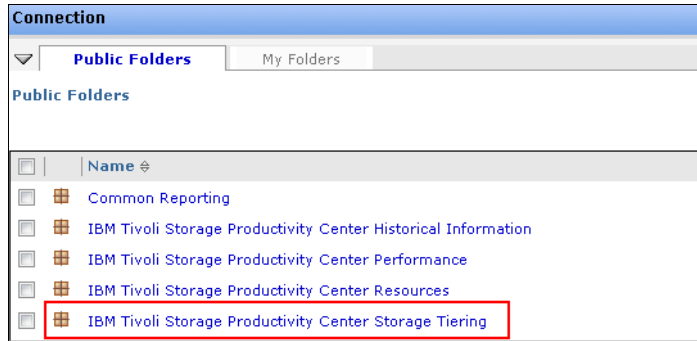

Figure 11-100 Tivoli Storage Productivity Center Storage tiering reporting
5. Figure 11-100 shows how to select predefined Storage Tiering reporting.